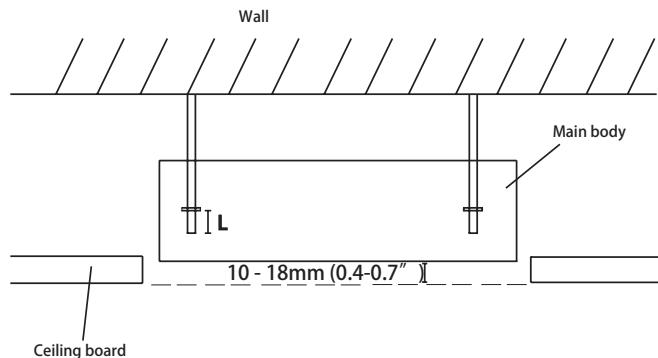

Fig. 4.6
**NOTE:** The bottom of the unit should be 10 - 18mm (0.4-0.7") higher than the ceiling board. Generally, L (indicated in Fig. 4.6) should be half the length of the suspension bolt or long enough to prevent the nuts from coming off.